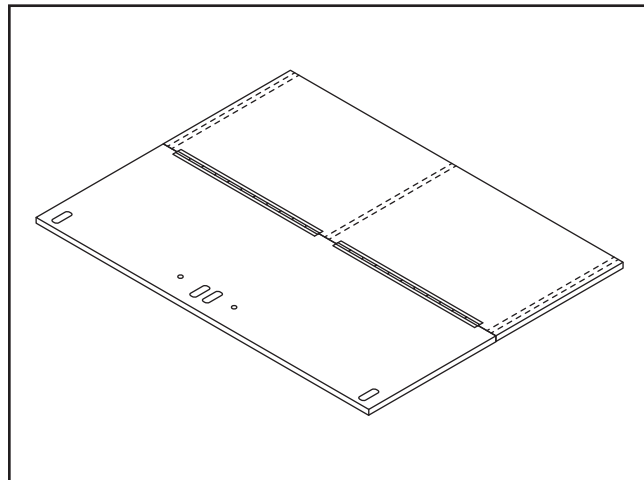

Figure 6. Cabinet base and front panel assembly.
4. Lay cabinet base and front panel assembly on a flat protected surface with magnet strips and hinges facing up (see **Figure 6**).